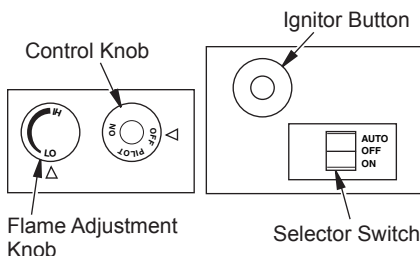

Figure 32 - Control Knob and Ignitor Button Location (Shown as Supplied, No Control Options)
5. Wait five (5) minutes to clear out any gas. Then smell for gas, including near the floor. If you smell gas, STOP! Follow "B" in the safety information, page 19. If you don't smell gas, go to the next step.
6. Press in and turn control knob counterclockwise  to the PILOT position. Press in control knob for five (5) seconds (see Figure 32).